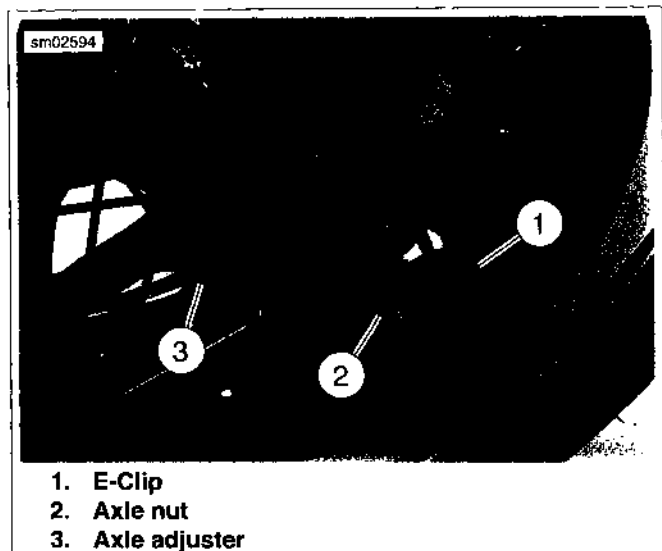

Figure 2-8. Axle Adjusters: All But FXCWC
7. **All but FXCWC:** See Figure 2-8. Remove e-clip (1). Remove rear axle nut (2).